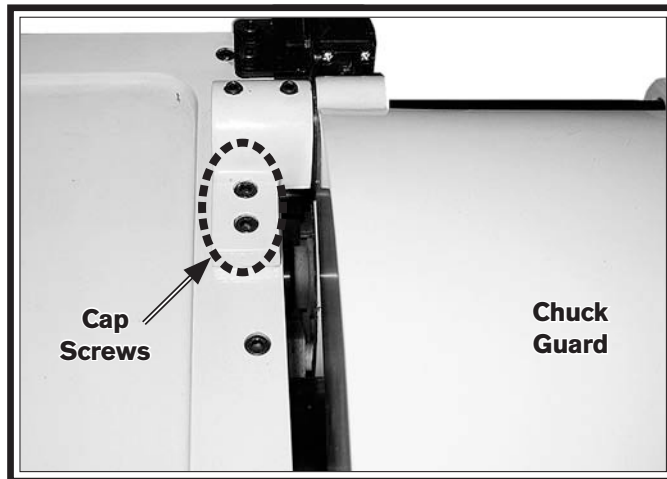

Figure 126. Location of cap screws securing the chuck guard.
4. Remove the two cap screws that secure the chuck guard to the top of the headstock (see **Figure 126**), then remove the guard.